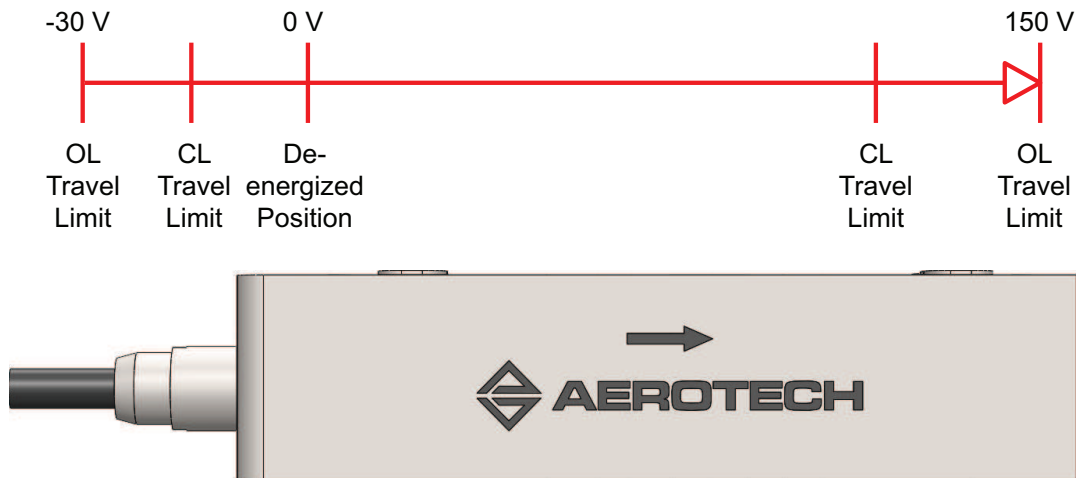

Figure 1-1: Single-Axis Stage Travel and Voltage Relationship
All QNP_{HD}L stages with feedback (-C option) have an open-loop (OL) and closed-loop (CL) travel range (refer to Section 1.4). This refers to whether the stage is using feedback control (CL) or not (OL). QNP_{HD}L stages purchased without feedback have an open-loop travel range only. The open-loop range is the travel that can be achieved over the entire -30 to 150 V operation range. When the stage is in closed-loop (servo on), it requires over-travel to account for a variety of operational conditions, so the closed-loop range is smaller. Refer to Figure 1-1 for an illustration of QNP_{HD}L stage travel ranges. QNP_{HD}L stages with the -C option are calibrated at the factory for optimal linearity over the specified closed-loop range only.